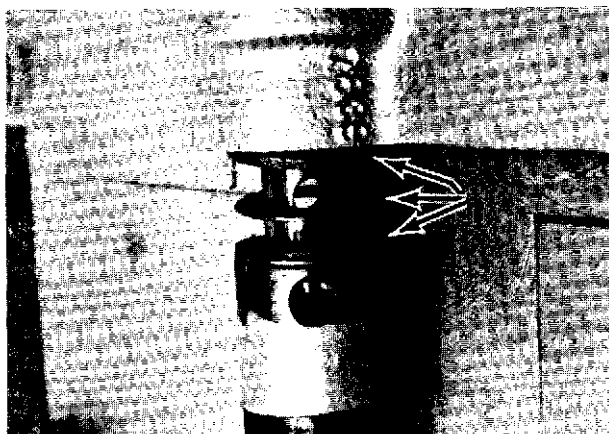

Fig. 12-10
- G. The thrust bearing (Fig. 12-10) can be removed from the top of the bowl lift screw.
- E. Rotate (by hand) the bowl lift screw a few turns to clear the lift screw extension and remove the thrust bearing (Fig. 12-10).